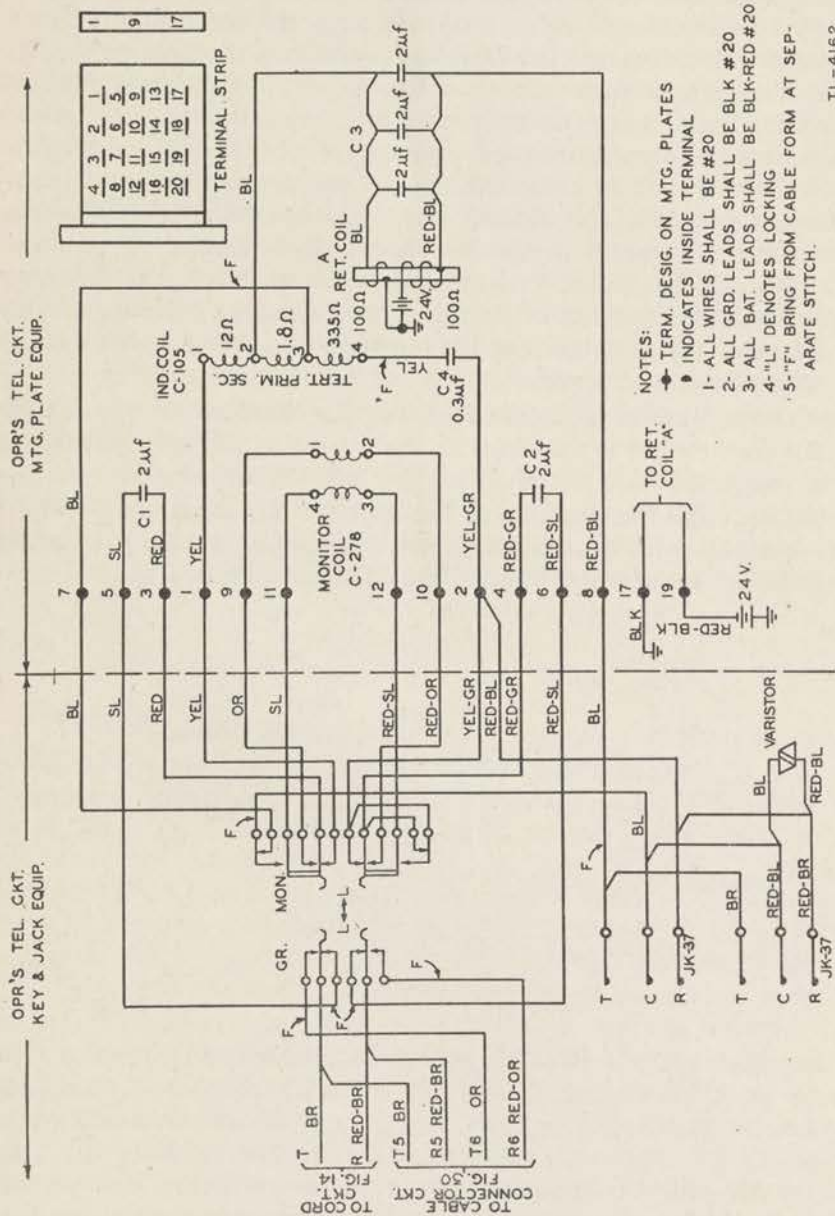
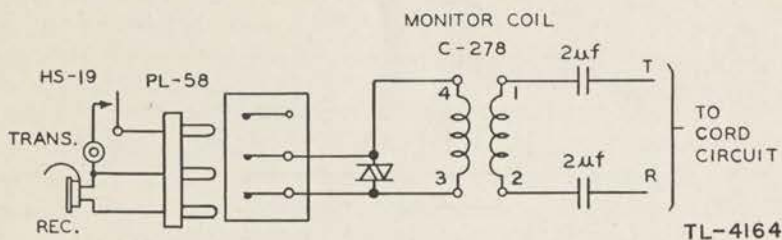

FIGURE 16.—Operator's telephone circuit.
FIGURE 18.—Operator monitoring, functional diagram.
**17. Operator's telephone circuit and grouping key circuit** (figs. 16 and 17).—An antisidetone telephone circuit which includes induction coil C-105, and is equivalent to the circuit in telephone EE-8-A, is provided in switchboard BD-89-A. A varistor is bridged across the receiver terminals to reduce acoustic shock to the operator from excessive voltages across the receiver terminals. The varistor consists of an arrangement of copper oxide disks, the resistance of
2-microfarad capacitors  $C1$  and  $C2$  across the cord circuit, which enables the operator to listen to the conversation without introducing any material transmission loss (fig. 18). A grouping key (figs. 16 and 19) is provided so that the cords of one switchboard BD-89-A may be used by the operator of an adjacent switchboard